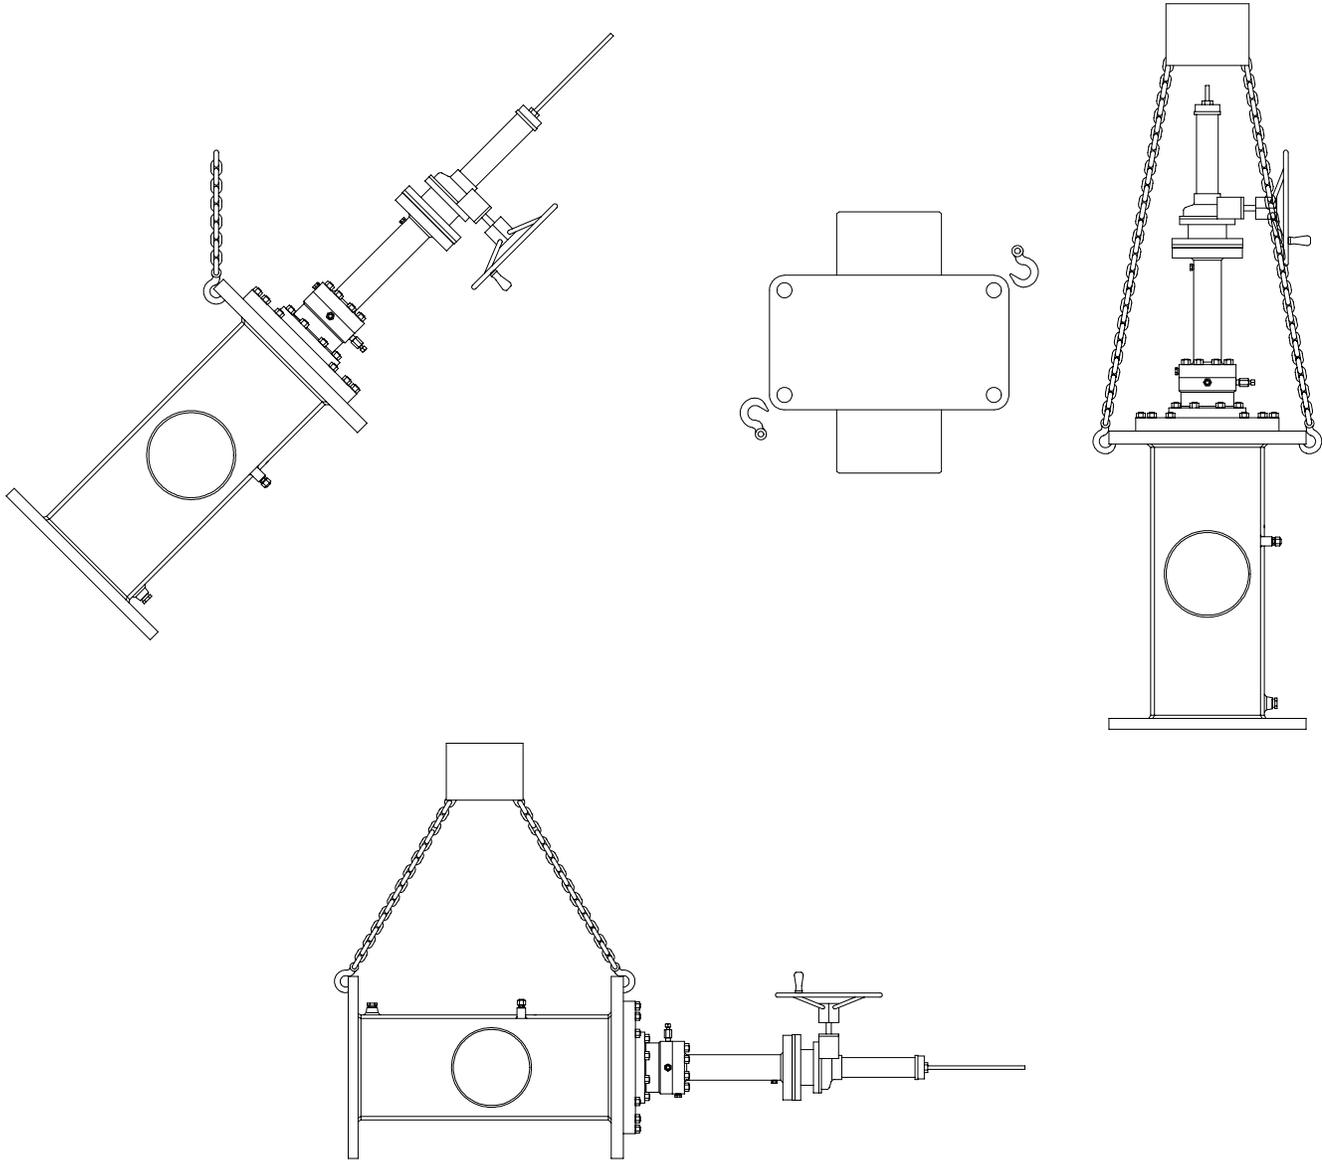

Figure 2
2.1 Small valves may be lifted with slings, straps, or by hooking into end flanges. Large valves are furnished with lifting holes in the top bolting flange and bottom plate. Most handling of these valves can be accomplished by hooking diagonally into lifting holes on each side of the bolting flange or diagonally into the top bolting flange and bottom plate. (See Figure 2.)